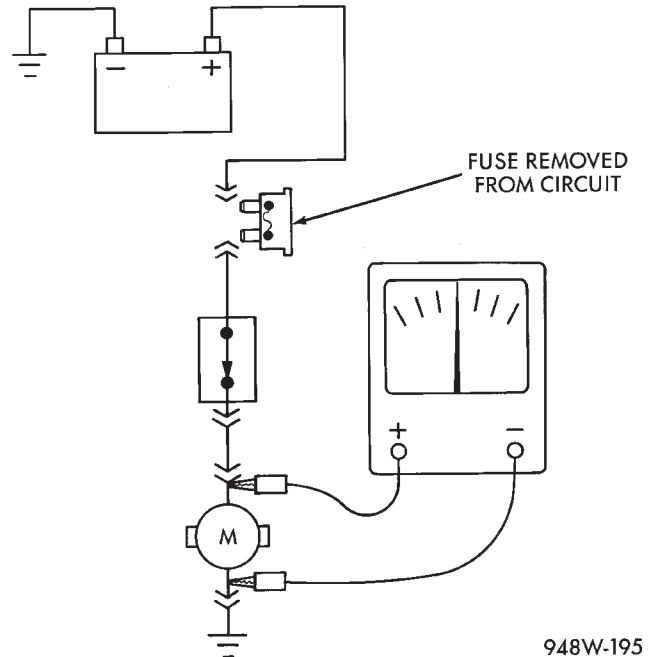

Fig. 9 Testing for Continuity
- (1) Remove the fuse for the circuit being checked or, disconnect the battery.
- (2) Connect one lead of the ohmmeter to one side of the circuit being tested (Fig. 9).
- (3) Connect the other lead to the other end of the circuit being tested. Low or no resistance means good continuity.